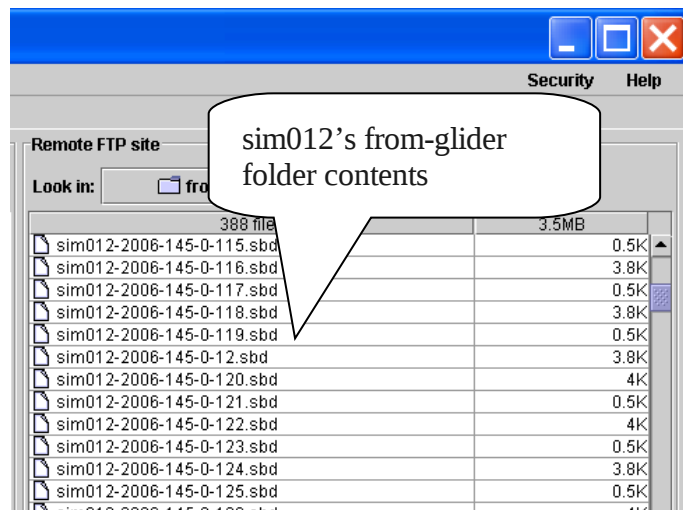

Figure 11-7. sim012’s from-glider folder contents.
3. Drill down to the glider of interest’s “from-glider” folder on the Dock Server by double clicking the folder labeled with that glider’s name and then double clicking the “from-glider” folder. Figure 11-7 shows the contents of glider sim012’s from-glider folder.